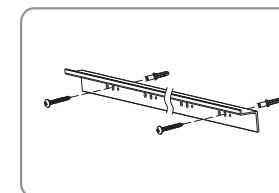

Figure 18
- b) Concrete wall mounting: to use an electric drill to drill 2 holes and hammer the provided tapping anchors into each hole, then fix the brackets onto the wall by fastening the tapping screws to the tapping anchors. (Figure 18)